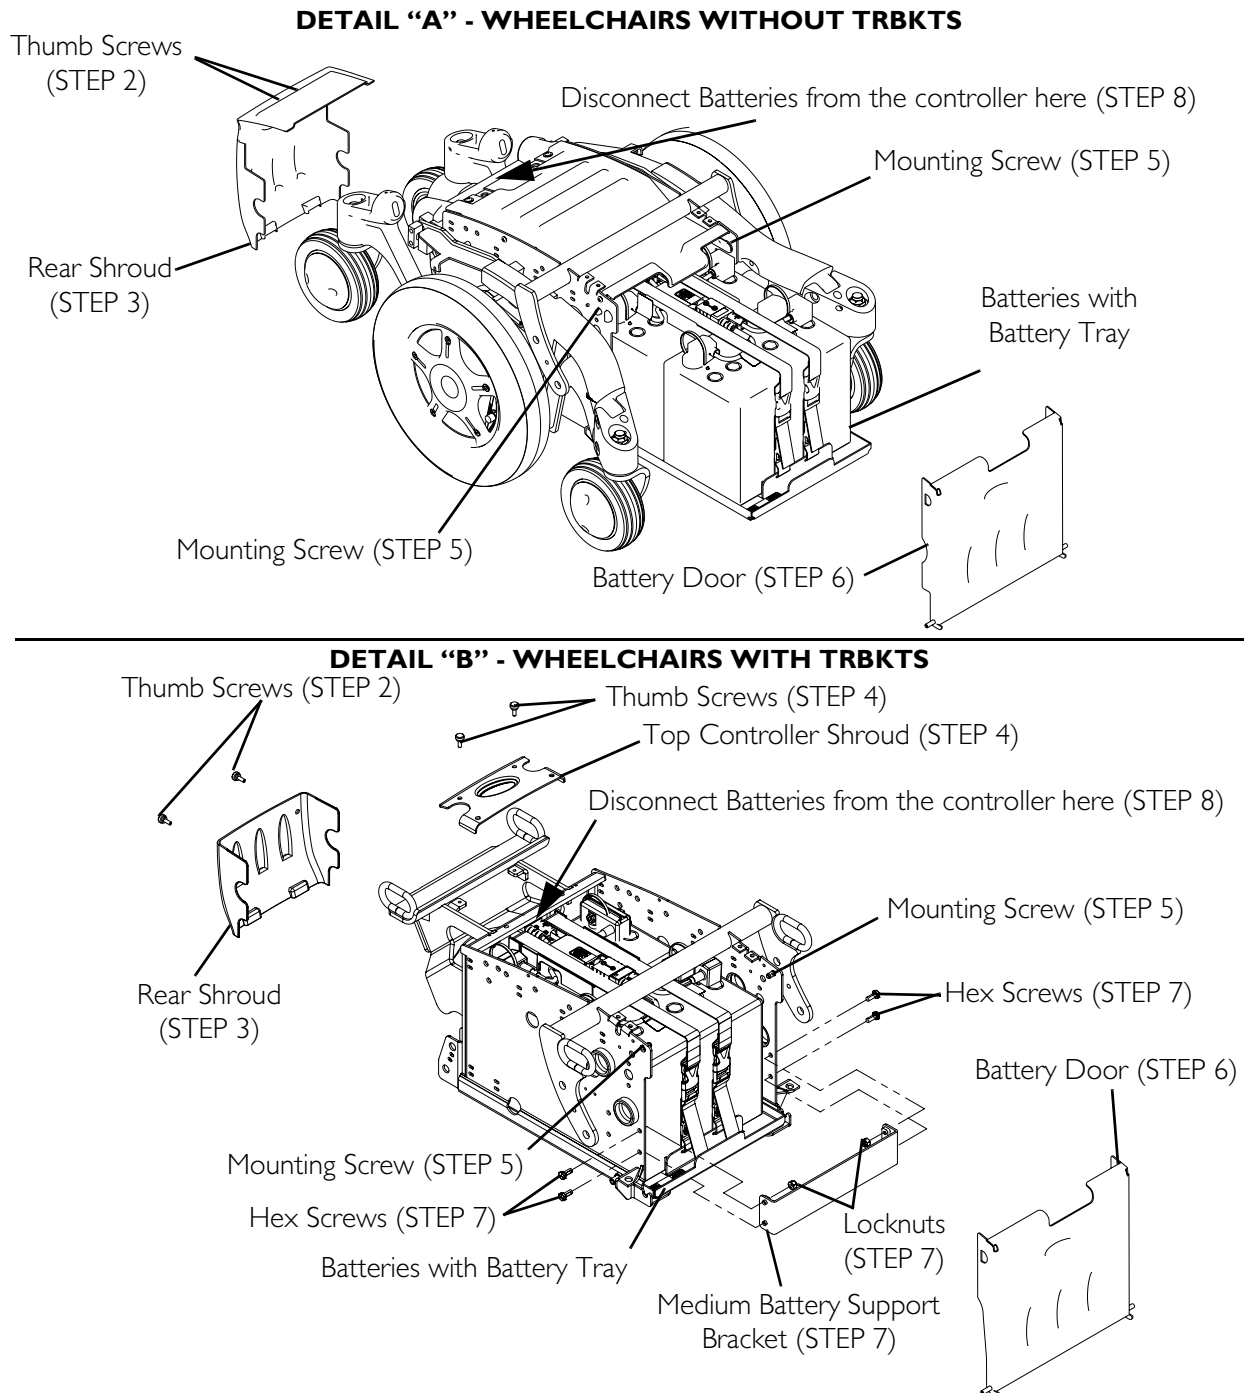

FIGURE 10.2 Removing the Battery Door and Rear Shrouds
NOTE: For this procedure, refer to FIGURE 10.2 on page 67.
1. Wheelchairs with TRBKTS Only - Install the battery support bracket onto the battery box (Detail "B" of FIGURE 10.2 on page 67) using the four hex screws and four locknuts (if applicable). Torque to 75 in-lbs.
5. Wheelchairs with TRBKTS Only - Reinstall the top controller shroud using the two thumb screws (Detail "B" of FIGURE 10.2 on page 67).